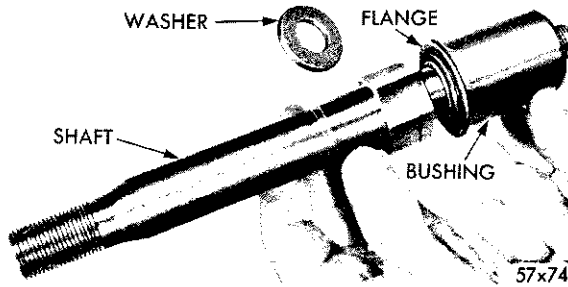

Fig. 31—Removing or Installing Lower Control Arm Pivot Shaft Bushing
**14. LOWER CONTROL ARM PIVOT SHAFT BUSHING—REPLACEMENT (FIGS. 31 and 32)**